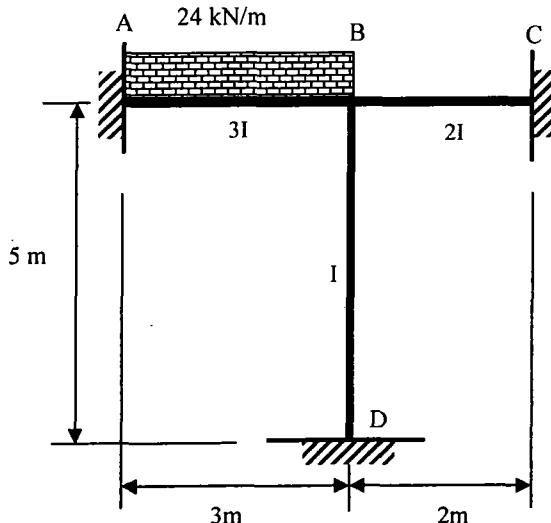

Figure 5 / Rajah 5
4. (a) Figure 5 shows a frame carrying a uniformly distributed load of 24kN/m on span AB. Support A, C and D are fixed. Each member is assigned value of I as shown in Figure 5. Determine the internal moments at the joints of the frame using the **slope deflection method**. Hence sketch the deflected shape and bending moment diagram of the frame.